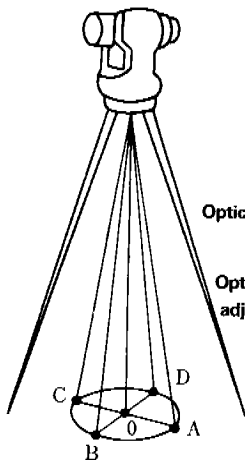

Fig. 45
1. If the center mark does not coincide with the intersection point, mark the points set on the line of sight at each step of  $90^\circ$  rotation on the paper, and call them points A, B, C and D (see Fig. 45).